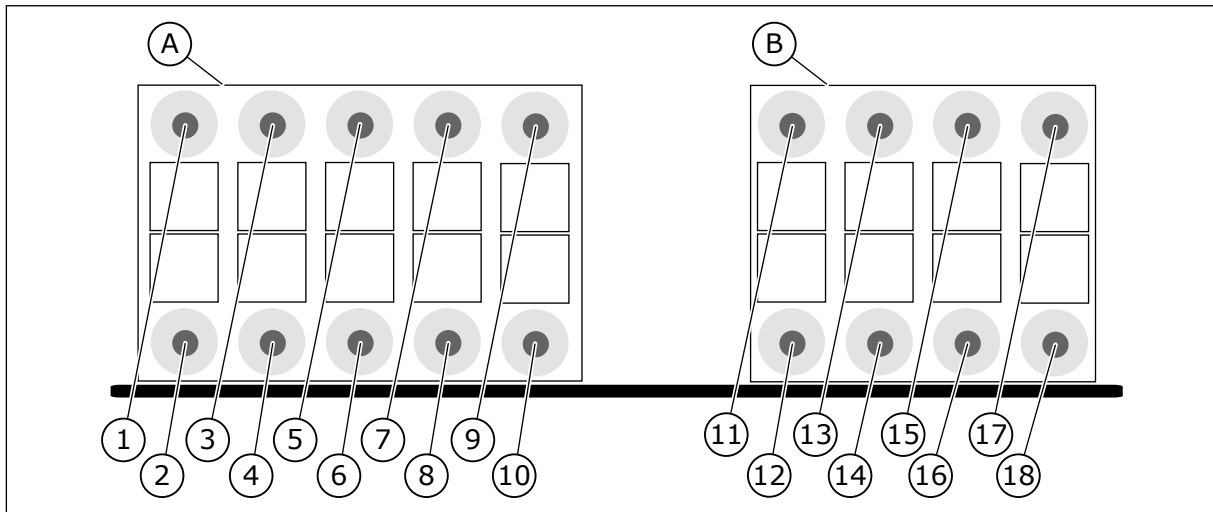

Fig. 4: The terminals of the OPTBL option board
### A. Terminals X3 (See Fig. 4.)
### B. Terminals X4 (See Fig. 4.)
**A. Terminals X3** (See Fig. 4.)**D. Encoder output terminals X8**
**B. Terminals X4** (See Fig. 4.)**4.5.7 CLOSED-LOOP CONTROL WITH OPTBM**